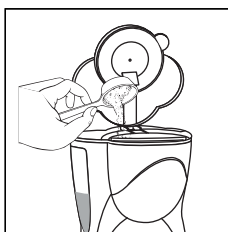

fig. 5
- Place the ground coffee in the filter, using the measuring spoon supplied, and level evenly (Fig. 5). As a general rule, use a level measuring spoon of ground coffee for each cup (for example, 10 spoons to make 10 cups). The quantity of ground coffee used may vary according to personal taste. Use good quality, medium ground coffee, packaged for filter coffee makers.